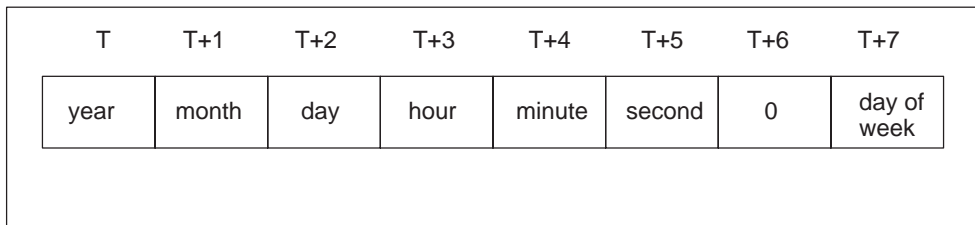

Figure 9-24 Format of the Time Buffer
Figure 9-24 shows the format of the time buffer (T).